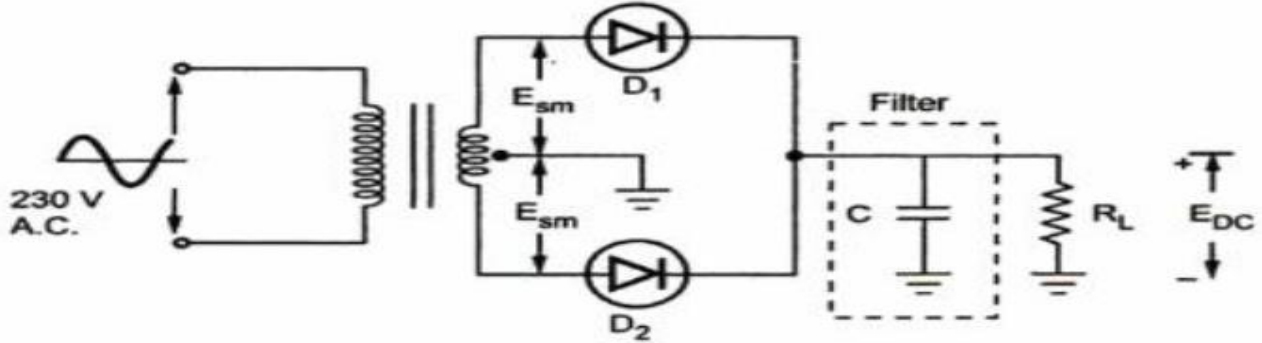

Fig. 2.9 Capacitor input filter with Full wave rectifier
- The capacitor filter used in full wave rectifier circuit as shown in the Fig. 2.9.